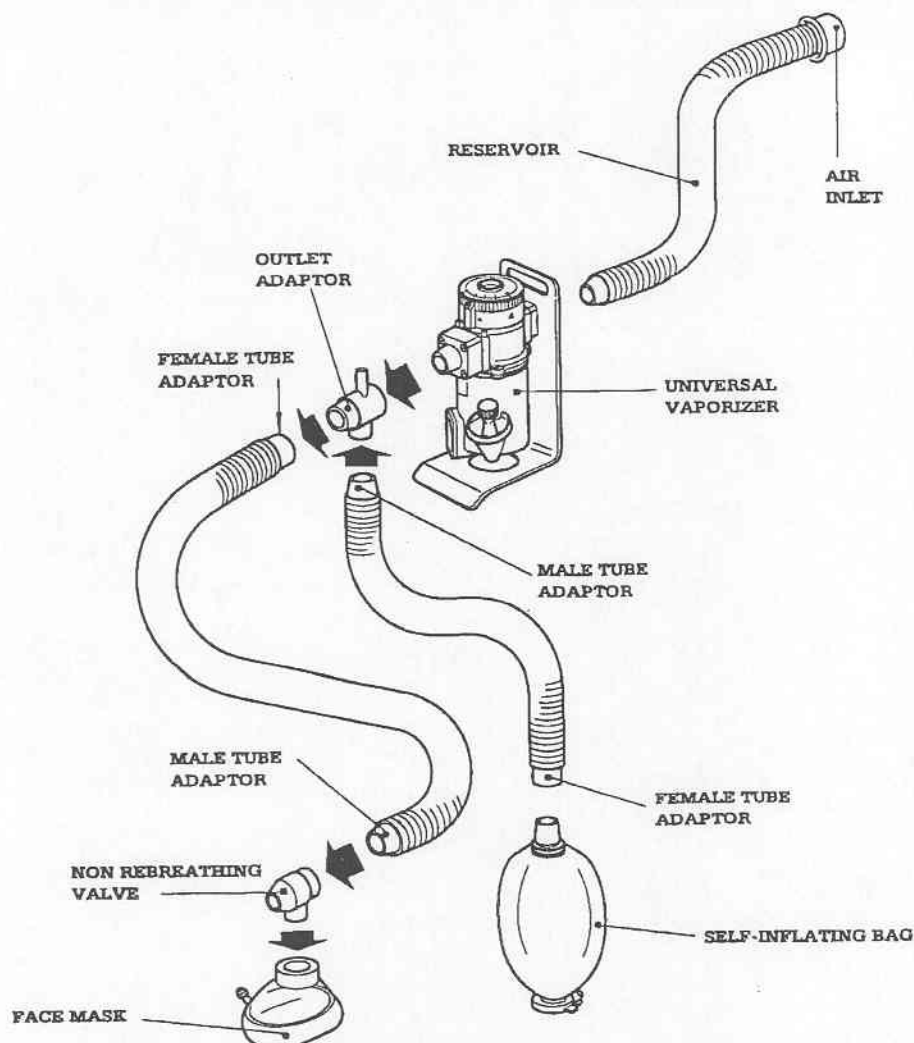

Fig. 1 PAC Portable Anesthesia System
1. Inspect the flexible hoses illustrated on Fig. 1 for any damage such as cuts and/or splits. Replace the complete hose assembly if a hose is damaged.